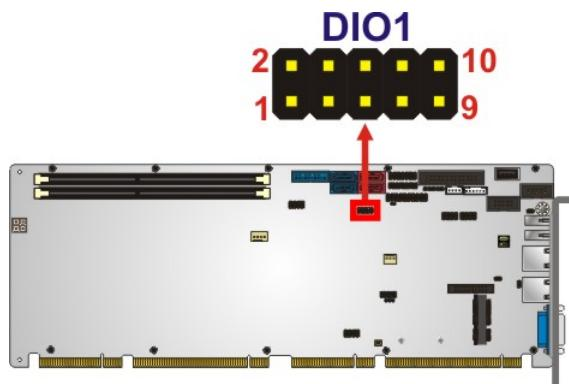

Figure 3-7: Digital I/O Connector Location
**CN Location:** See Figure 3-7